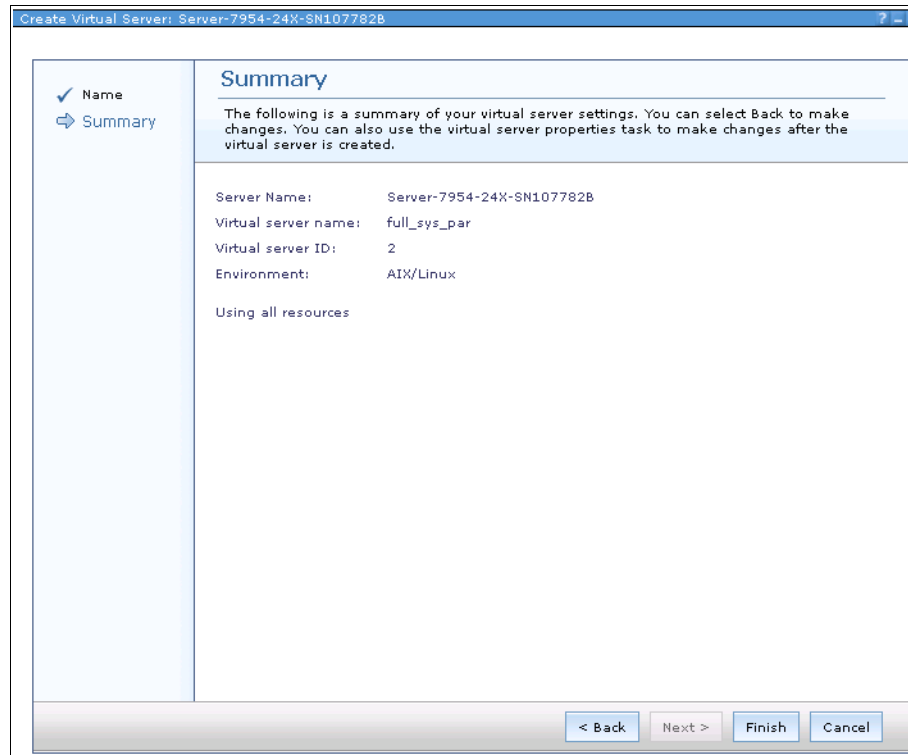

Figure 8-85 Summary window when creating full system partition with HMC
5. Review the summary window, as shown in Figure 8-85. All of the resources are assigned to this virtual server.